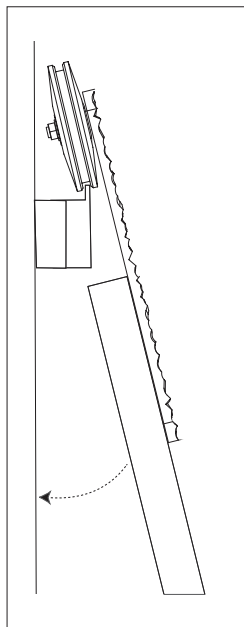

Figure 13
15. Hang the door. (Figure 13).